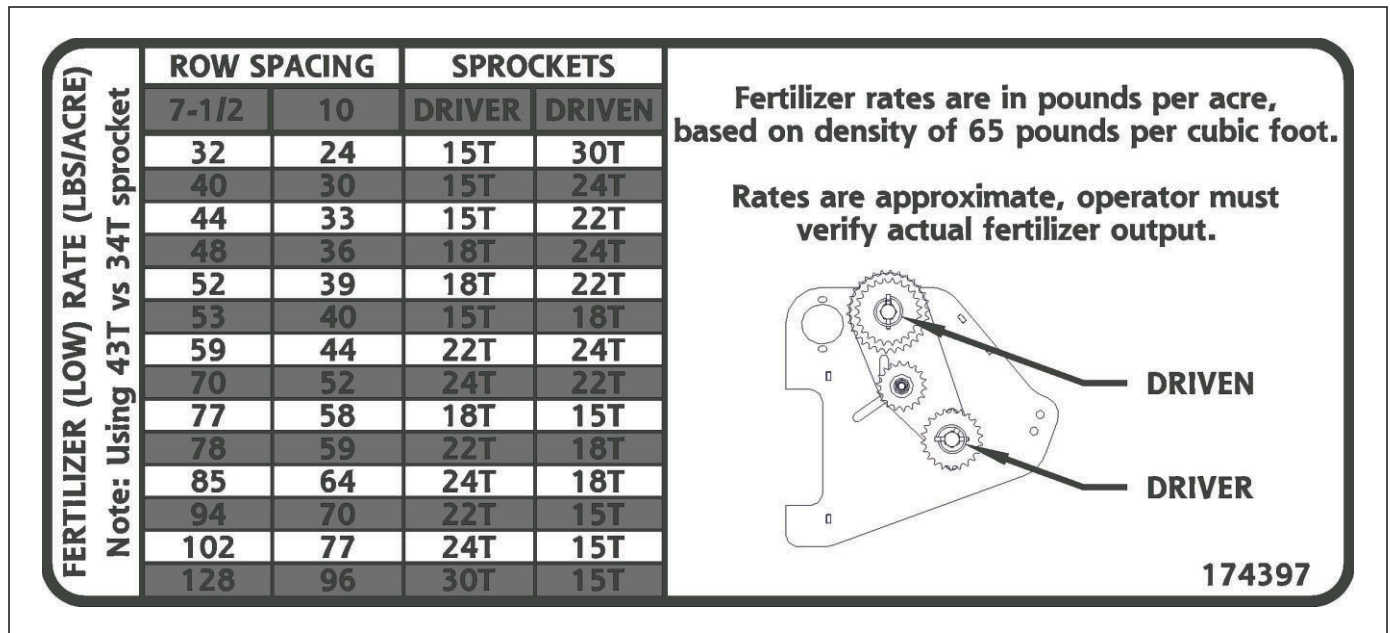

Figure 4-18: Fertilizer Box Chart
- The dry fertilizer rate is adjusted by changing sprocket ratios for each section. *See Figure 4-18* for desired settings. For best results use clean dry fertilizer, free of clumps, or foreign material.